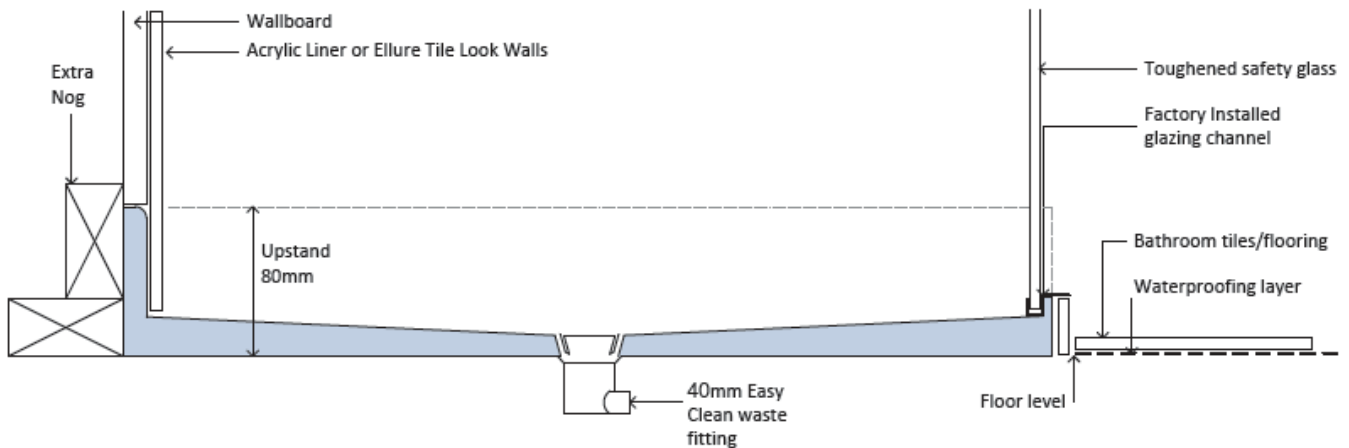

FIGURE 1
2. Provide a hole for the waste fitting to a minimum size of 230mm x 230mm, FIGURE 1, in the correct position to suit the shower base.